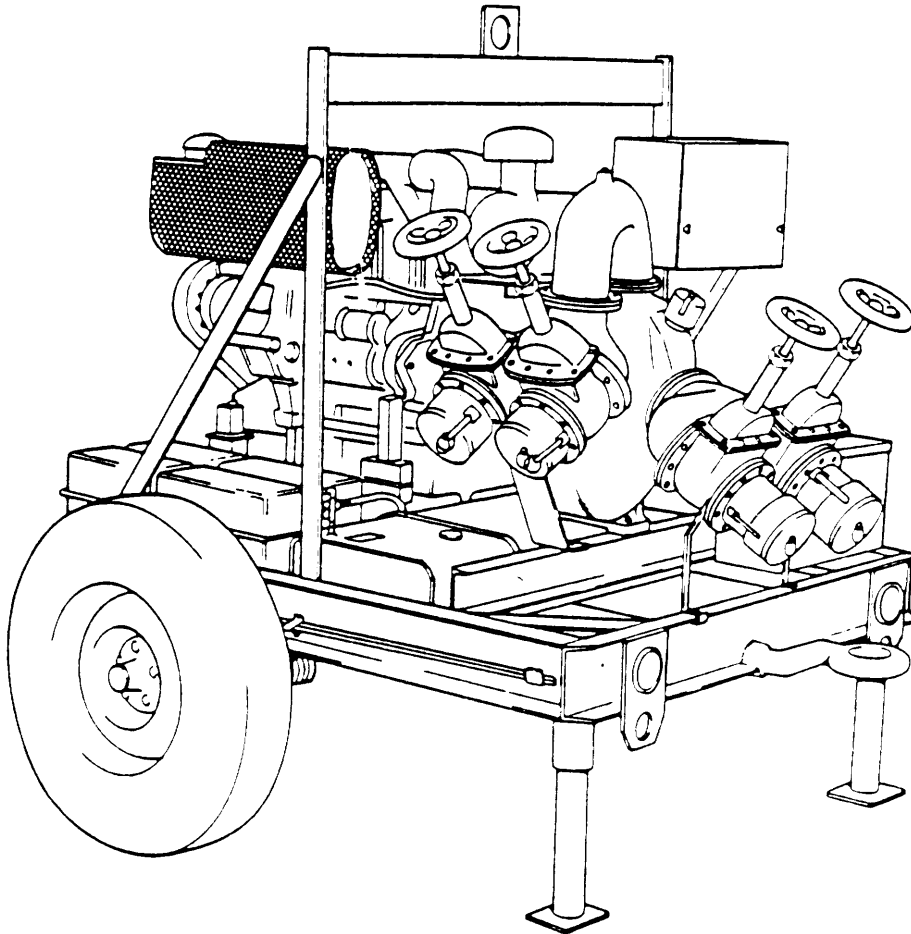

Figure 1-3. Centrifugal Pump, 350 Gallon Per Minute Capacity.
a. *Pumps* (figure 1-3). A 350 gpm centrifugal pump is used on the receiving side of the fuel system to move fuel into the collapsible tanks. An identical pump is used on the delivery side of the fuel system to move the fuel from the tanks to the dispensing units.